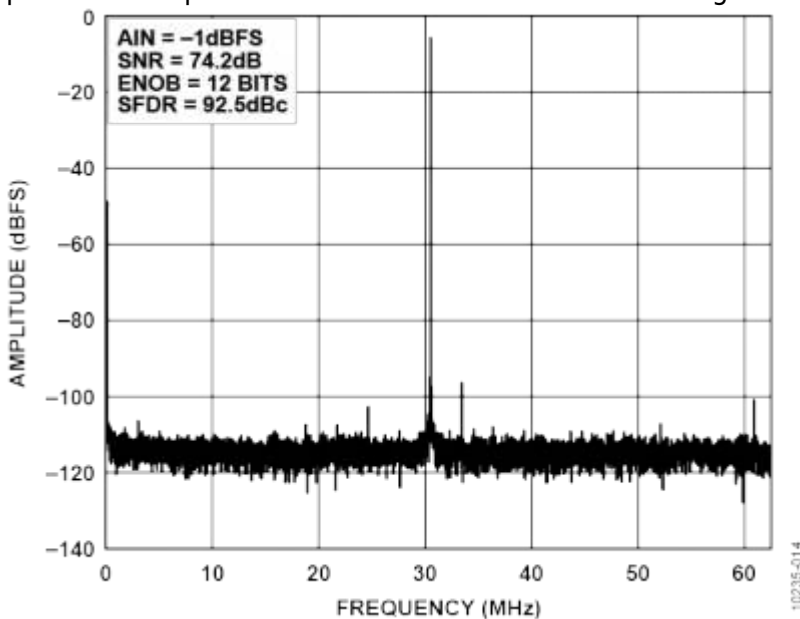

Figure 15. Typical FFT, AD9253
3. Click the disk icon within the **VisualAnalog Graph - AD9253 FFT** window to save the performance plot data as a .csv formatted file. See Figure 15 for an example.